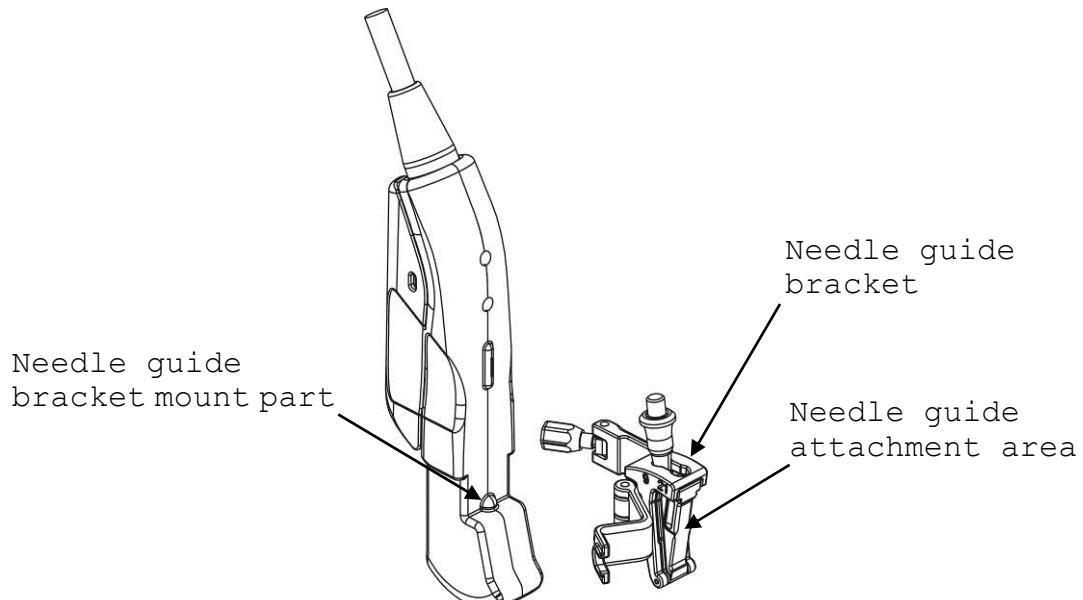

Fig. 11 Position for mounting the needle guide bracket
- 1) Insert the recess of needle guide bracket to the needle guide bracket mount part. (See Fig. 11)